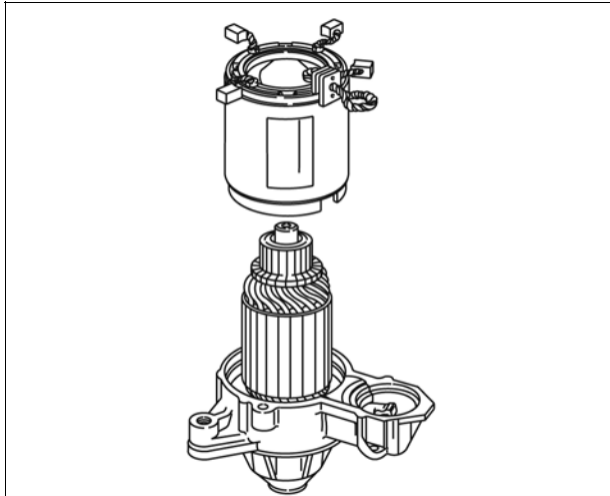

Figure 71
5. install brushes (Figure 71).